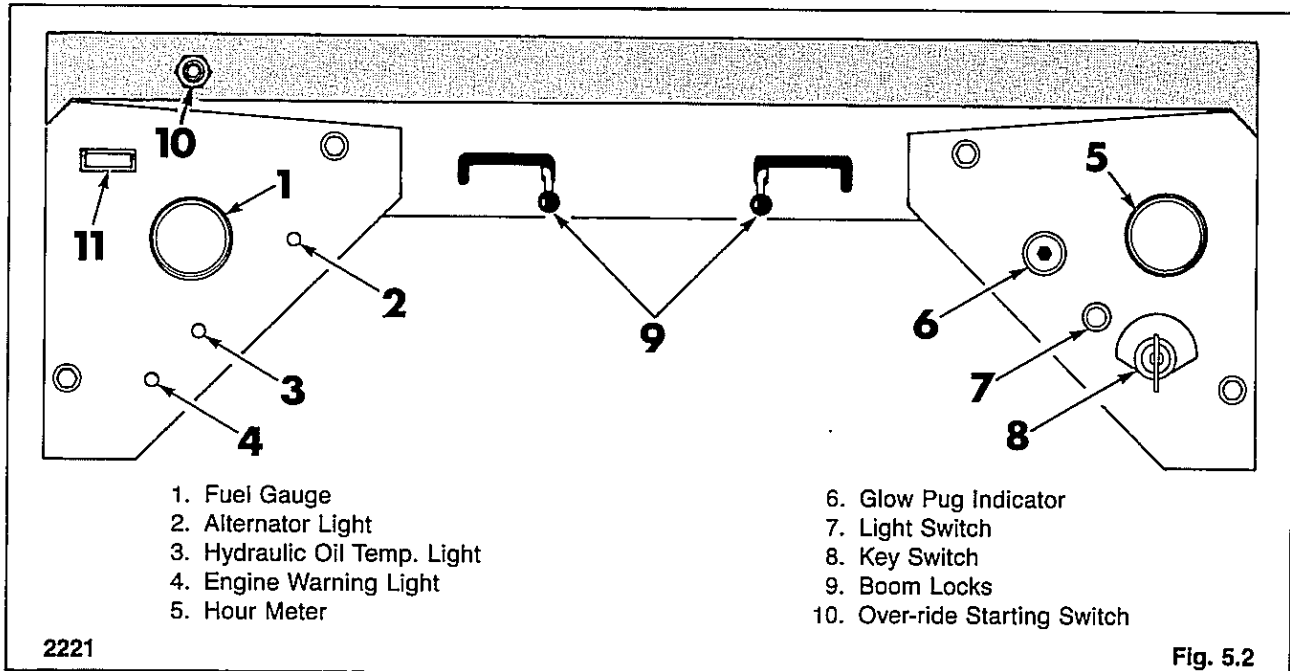

Fig. 5.2
The fuel gauge indicates the quantity of fuel in the fuel tank (Fig. 5.2). The fuel tank capacity is 16.8 gal. (64 L). The diesel engine must not be allowed to run out of fuel otherwise air will have to be removed from the fuel (Refer to Section 7 — Engine).
The alternator warning light will come on if the alternator is not producing sufficient current (Fig. 5.2 item 2). With the key switch in the ON position the alternator light will be on. When the engine starts the alternator light will go off. For complete operating description and testing of the charging system refer to engine repair manual.
The hydraulic oil temperature light (Fig. 5.2) measures the temperature of the hydraulic oil. The temperature sender is located at the hydraulic reservoir (Fig. 5.2.3). If the hydraulic oil temperature light comes on during operation shut off the engine and determine the cause of over heating. Check the radiator and hydraulic oil cooler for air flow restriction first before checking for a malfunction of the sender. Refer to section 1.8 and 2.4 for trouble shooting of the hydraulic and hydrostatic systems.
The engine warning light serves the dual function of monitoring both the engine oil pressure and engine coolant temperature (Fig. 5.2 item 4).
The hour meter records the number of engine operating hours and has a total read out of 9999.9 hours (Fig. 5.2 item 5). The meter winds approximately every 12 seconds and will run a short time after the ignition has been shut-off.
flows through the glow plug heating element. The heat generated by the glow plug element pre-heats the air in the cylinder making it easier for the fuel injected into the cylinder to vaporize and ignite. An indicator on the instrument panel, Fig. 5.2, will glow red when the air in the cylinder has heated to the correct temperature.